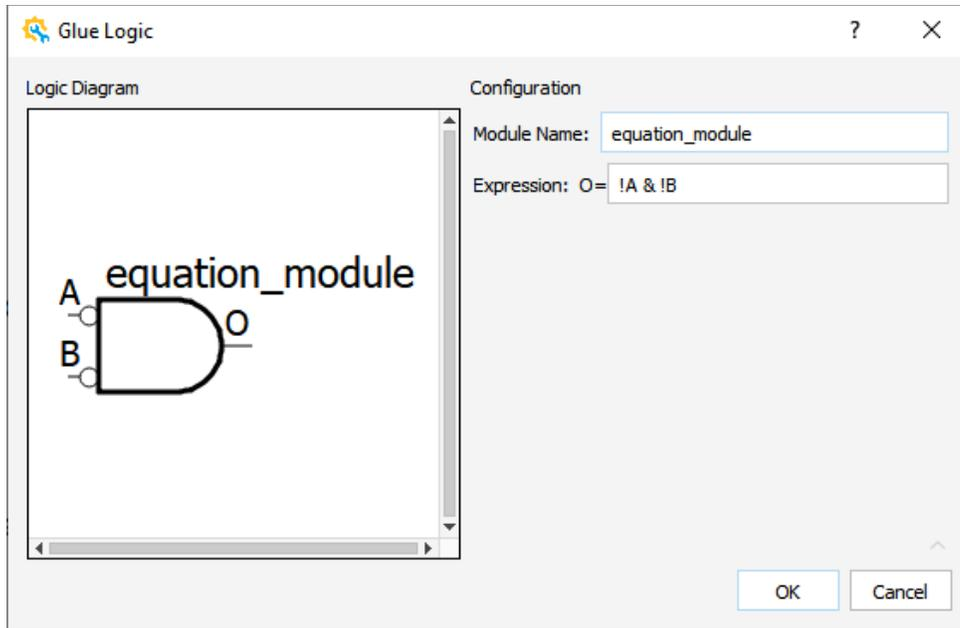

Figure 2.25. Glue Logic Wizard for Equation Module
1. From the IP Catalog, select the **equation** module. Double-click the equation module, or drag and drop the equation module to the Schematic view. A Glue Logic wizard (Figure 2.25) pops up.